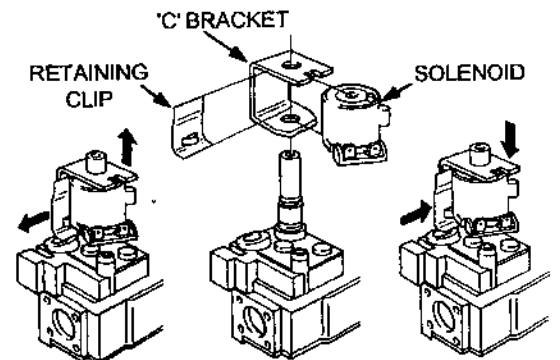

Fig. 31
- 8.12.22** Pull off the 'C' bracket and coil assembly, see fig. 31